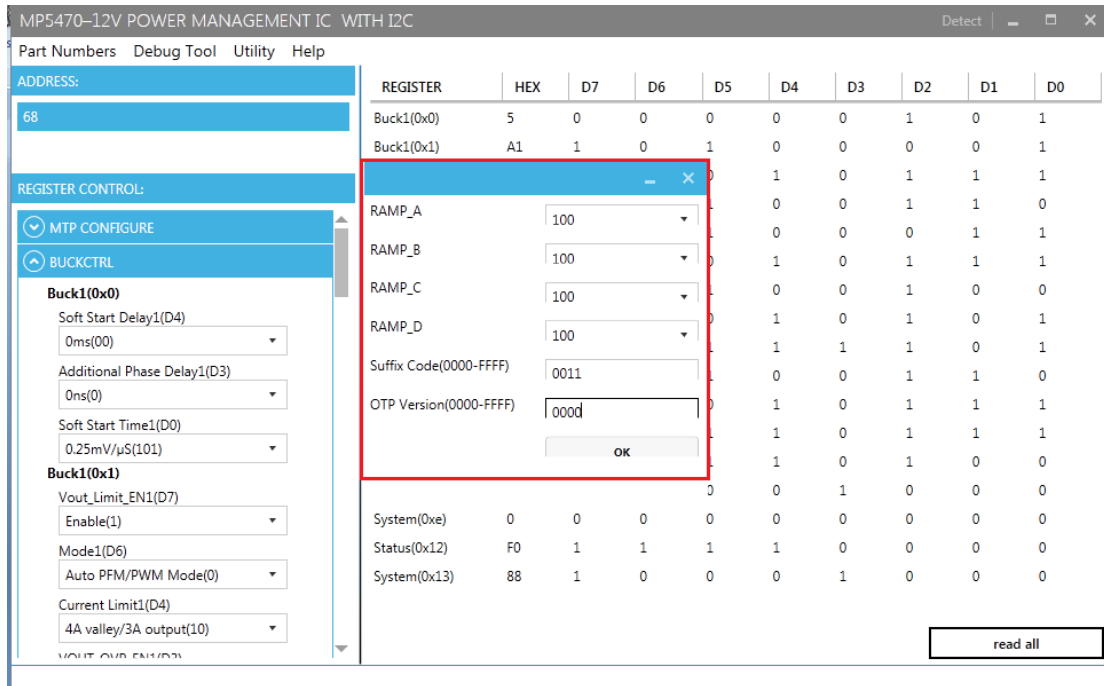

Figure 14: Export MTP Registers Configuration Files
6. The MTP registers configuration file can also be exported by clicking “Utility—MTP/OTP--Export”. Afterward, the software interface will be as shown in Figure 14.